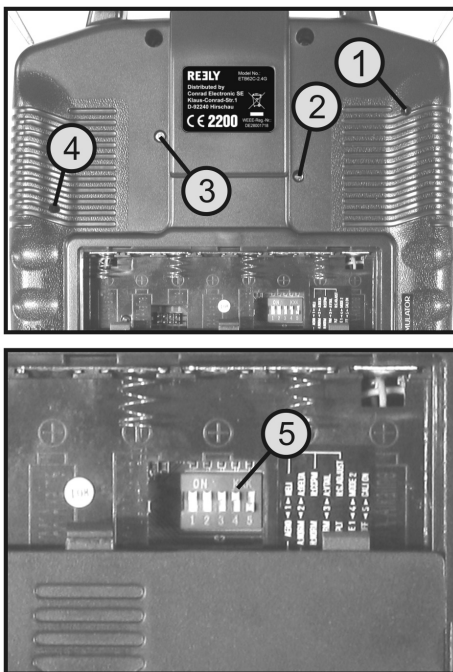

Figure 27
To switch the control electrically as well, move the DIP switch with number 4 (see figure 27, item 5) from the upper position „ON“ to the lower position „OFF“.